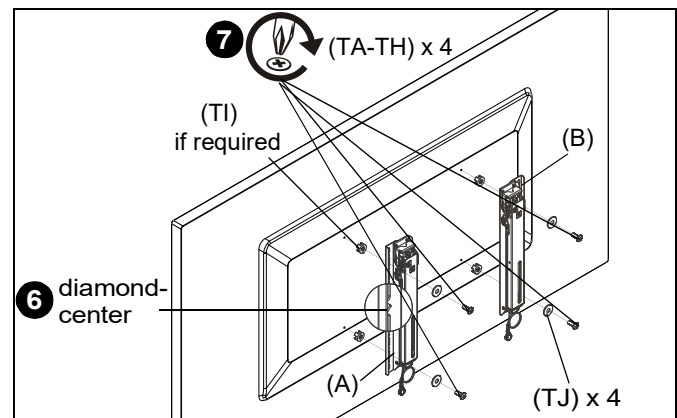

Figure 19
- Select screw *diameter* by examining hardware (TA-TC and PD-PH) (6mm or 8mm) and comparing with mounting holes on display. (See Figure 19)
- Select screw *length*: (See Figure 19)
- By hand, insert **SHORTEST** length screw of selected diameter (TA-TH) through 3/16" washer (TJ) (M6 screws ONLY), bracket (A or B), nesting spacer (TI, if required), into display mounting hole. Do NOT thread screw into hole at this time.
- Make sure diamond on interface brackets is even with center of display. (See Figure 19)
- Use selected screws (TA-TH), washers (TJ) and spacers (TI), if necessary, to connect interface brackets (A and B) to back of display. (See Figure 19)